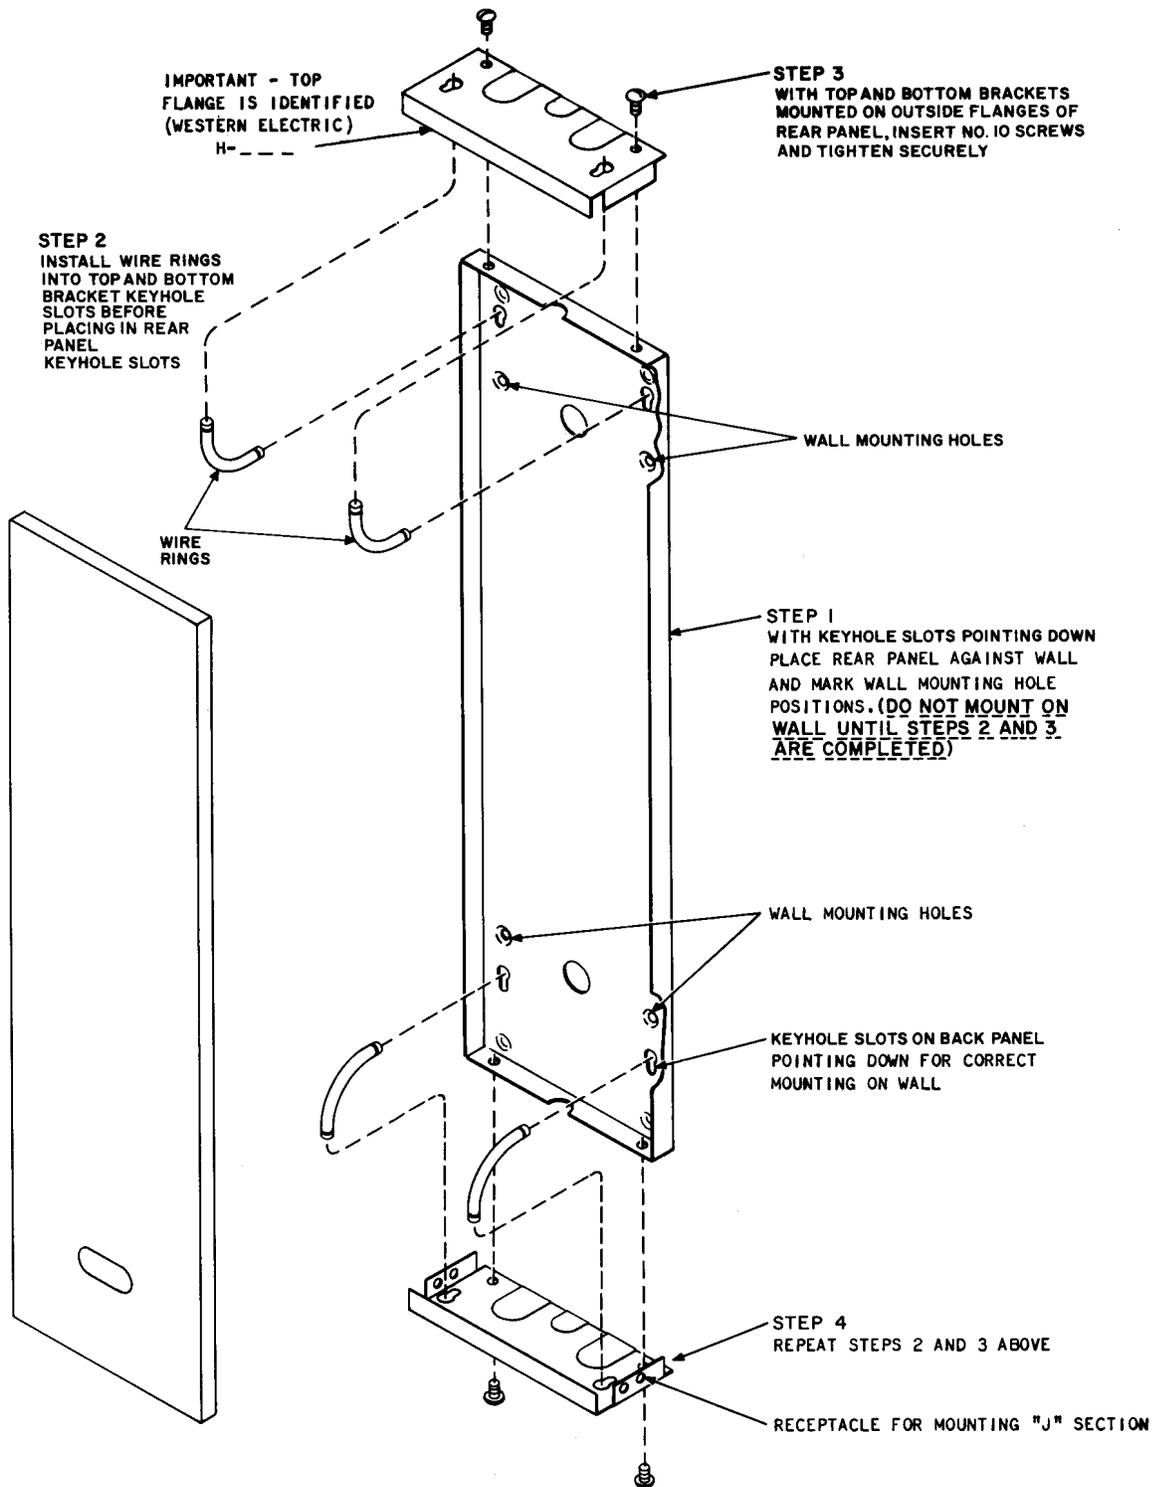

Fig. 3—Assembly of H-Type Terminal Section
2.06 The H-type terminal sections are shipped unassembled and must be assembled as shown in Fig. 3.